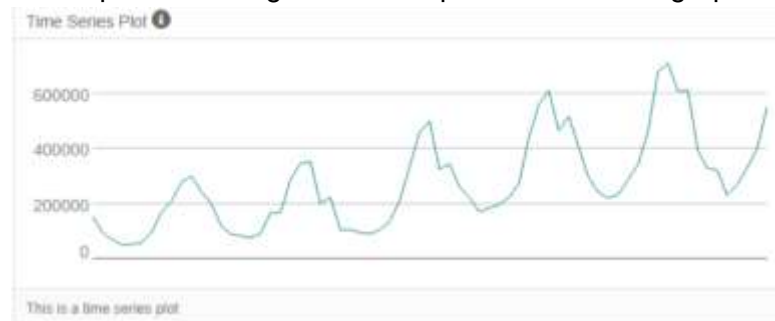
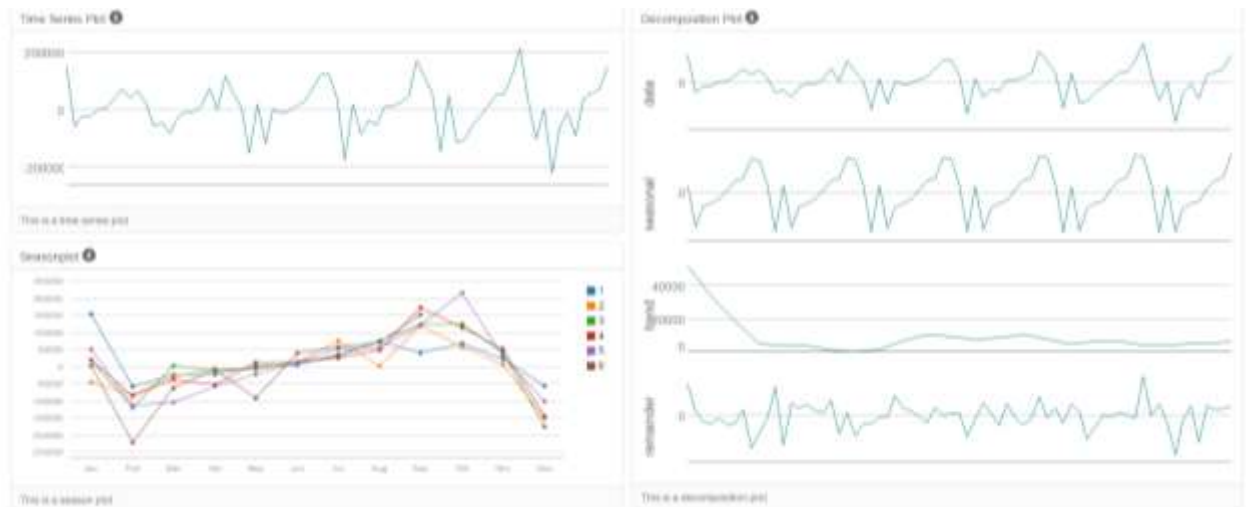

Fig. 2.1 Time series plot
Figure 3.8 Time series plot and decomposition plot after the first non-seasonal differencing
From figure 2.1,2.2,2.3, we can say that series is not stationary. non-seasonal differencing is needed. After first non-seasonal differencing, the time series plot seems stationary as per figure 3.8. Hence integrated part(I) should be 1 for non-seasonal component of ARIMA model.